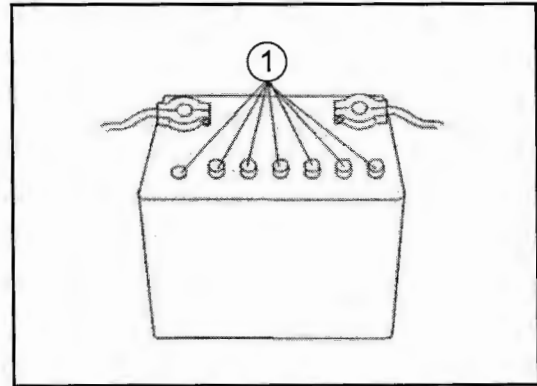

Fig. 35-2 - Battery
Check that the level of electrolyte reaches the top mark and never falls below the lower mark. If necessary, lift the covers (1) and add clean water. (See Fig. 35-2).